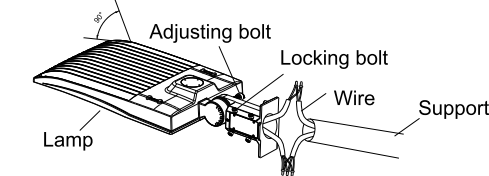

Figure 16
Step 2: Loosen the four bolts on A&D bracket, connect the wires correctly, and pull the wires into the poles. (Figure 16)
Step 3: Place the bracket into the pole and lock the four bolts. (Figure 16)
Notice: Adjustable angle is 0-90° (Figure 16)